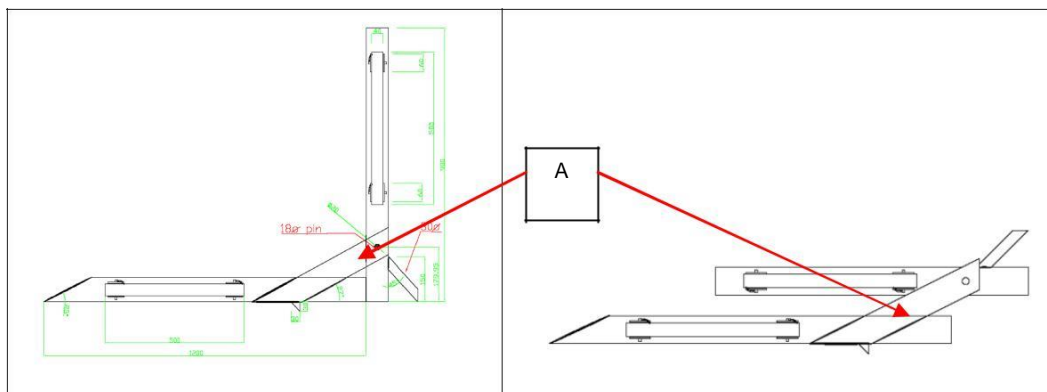

Figure 2: Folding mechanism
- 2.5 The collapsible PVB is connected to the above mentioned steel plates via a steel movable arm allowing it to simply fold in order to pack away and store (A) in Figure 2 below.